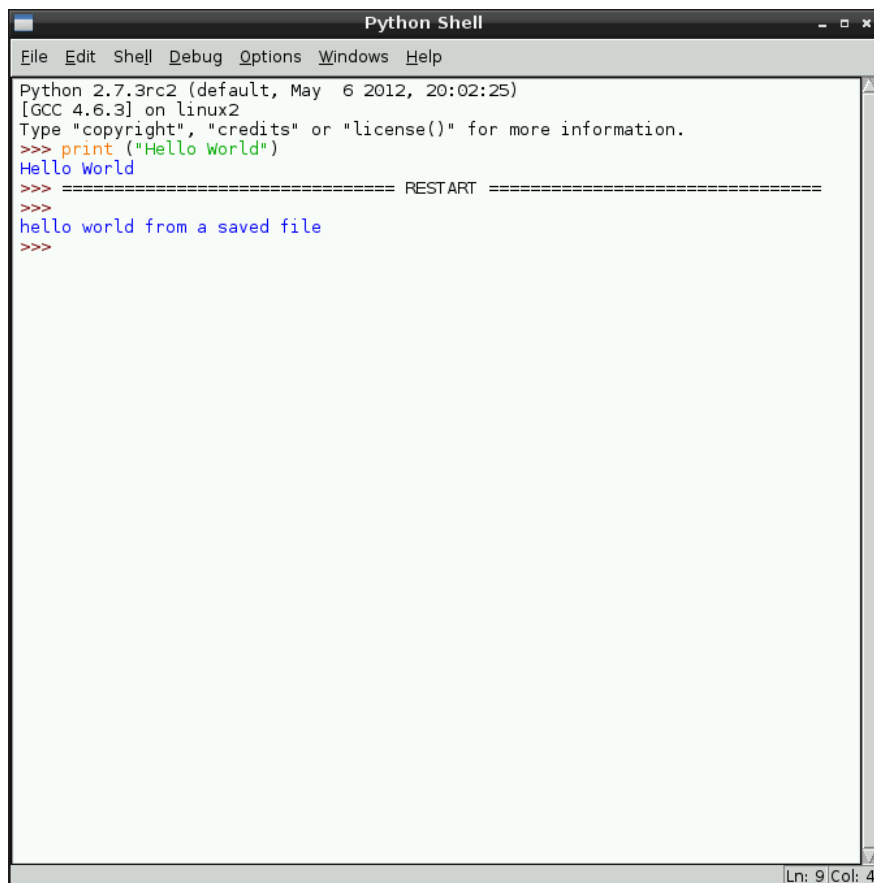

FIGURE 2-6:
5. After IDLE has saved your code, you will see a message saying RESTART (Python does this so you know you're always starting from the same consistent point), and then your code will run in the Python Shell window, as shown in Figure 2-6. If you've made a mistake, you'll see an error – correct it and then choose Run Module again.